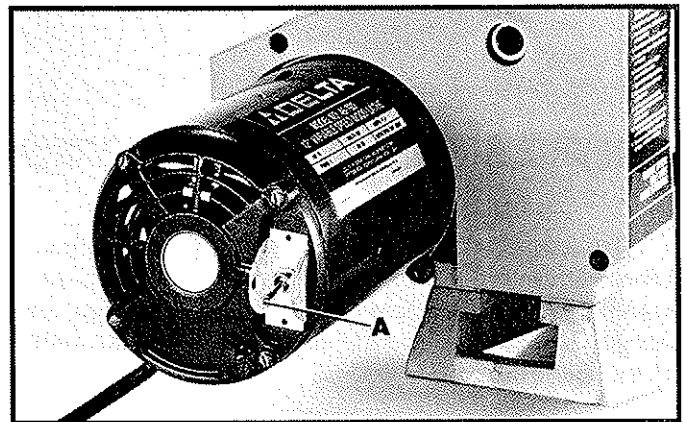

Fig. 15
The switch (A) Fig. 15, is located on the end of the motor. To turn the lathe “ON” move the switch to the up position. To turn the lathe “OFF” move the switch to the down position.